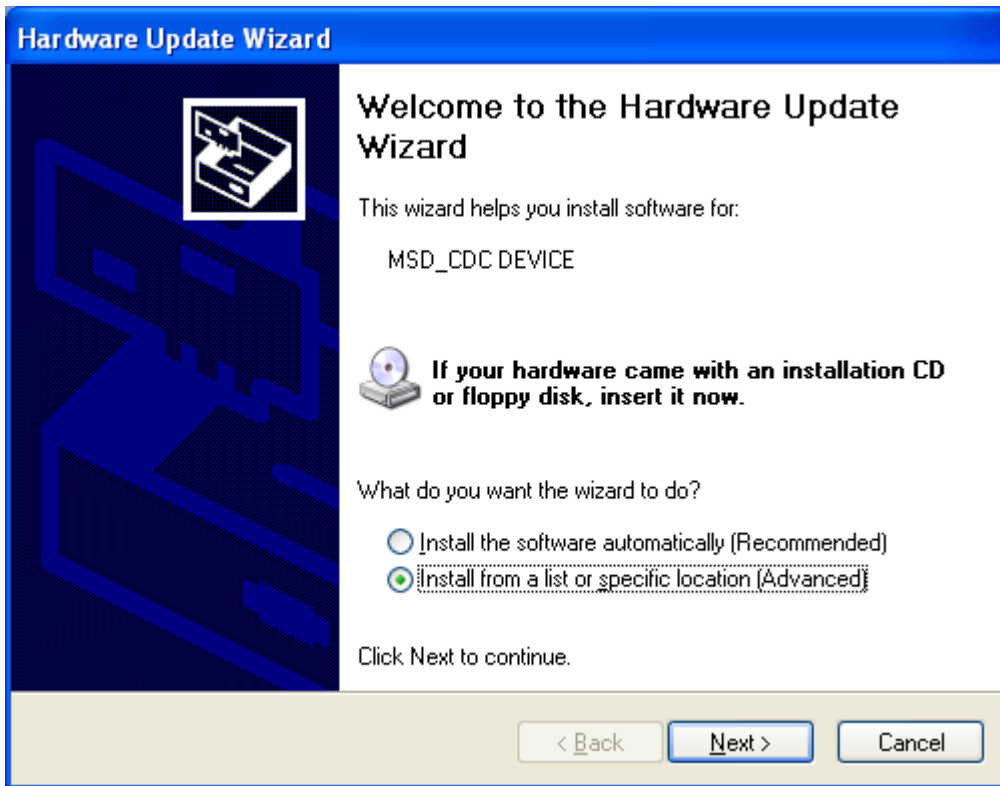

Figure K-11. Found new hardware
Step 2. Select Install from a list or specific location (Advanced) option and click on the Next button in Search and installation options window appears as shown in Figure K-11